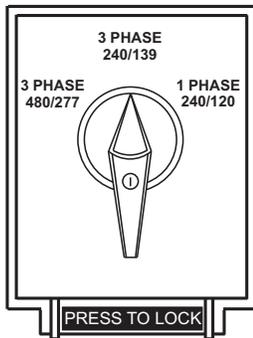

Figure 17. Voltage Selector Switch (3-Phase 240/139-Volt Position)
1. Place the **Voltage Selector switch** in the **3-phase 240/139-volt position** as shown in Figure 17.